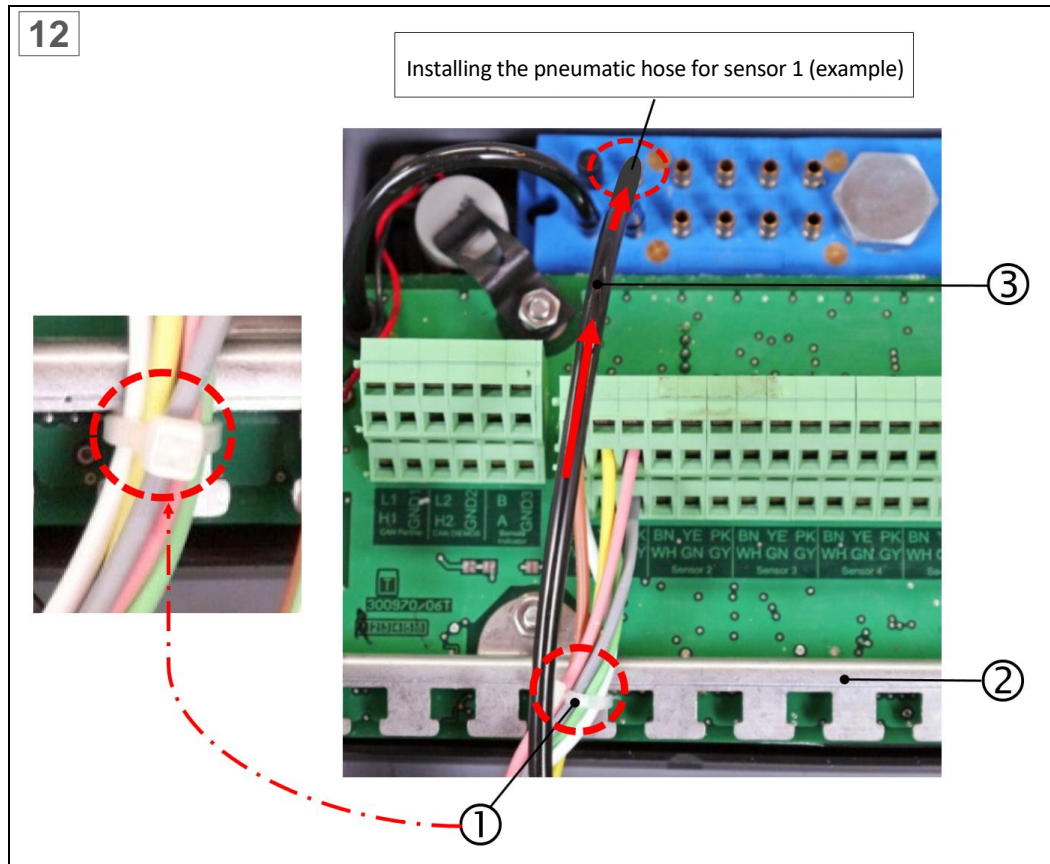

Fig.: 8 : Assembly and installation of hybrid cable, VN301^{plus} central unit (steps 1 - 12)
- ▶ The pneumatic hoses must be installed correctly and in accordance with the manufacturer's instructions as shown in Fig. 8!